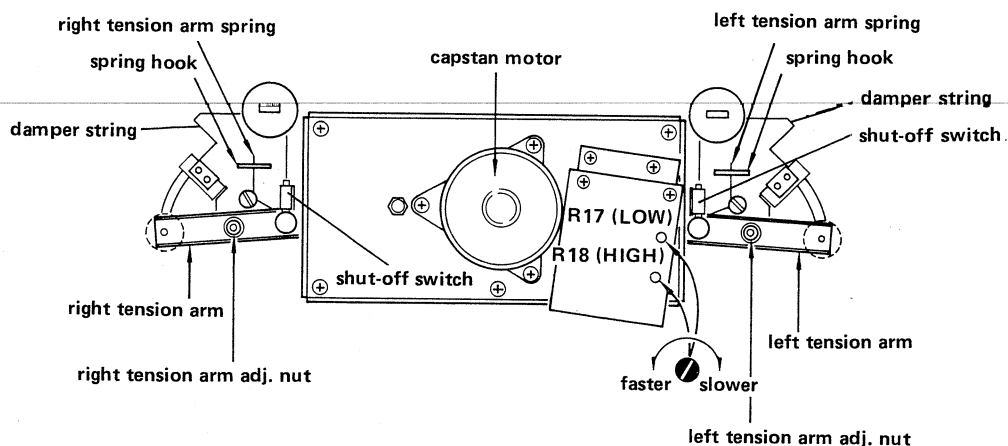

Fig. 6-8 Tension arm height, tension arm force, damper function, and tape speed
3. Stop left (right) guide roller's rotation by hand. Adjust by turning the left (right) tension arm adjusting nut (refer Fig. 6-8) so that the tape moves in the center of the guide roller.
3. Play the tape. Adjust R18 (see Fig. 6-8) for a reading of $3,000\text{ Hz} \pm 5\text{ Hz}$.